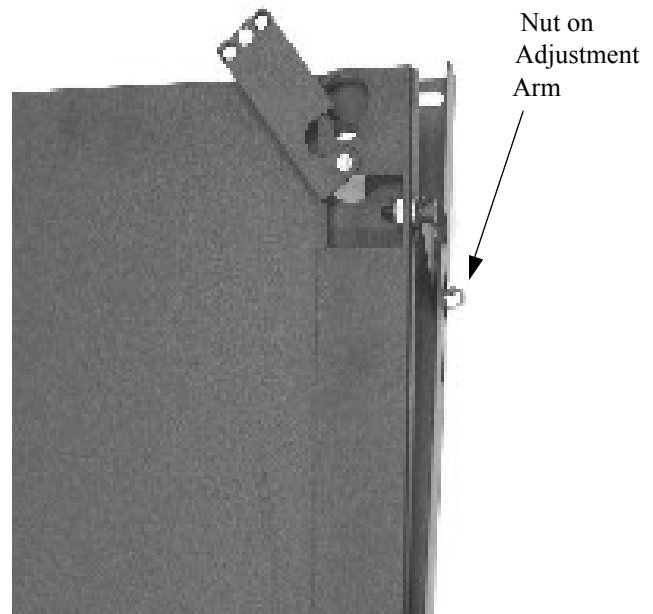

Figure 2. Adjustment arm
1. Loosen nut on each adjustment arm (see Figure 2).
3. Tighten nut on each adjustment arm (see Figure 2).